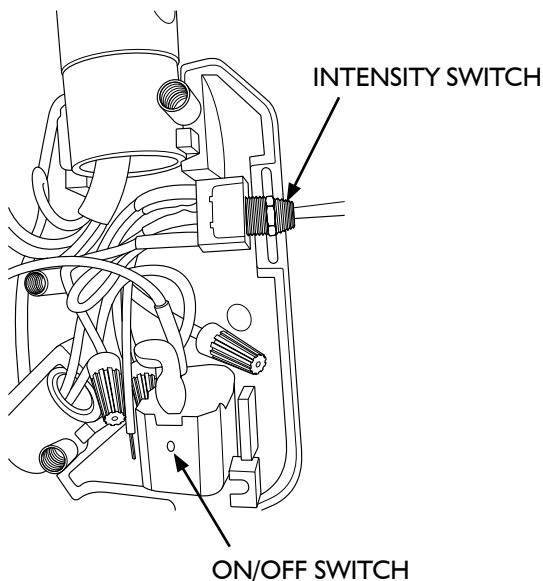

FIGURE 5
5. Align and seat the light switch and intensity switch into the housing, then re-install the cover and fasteners. Ensure that the wiring is not being pinched between the covers. **Figure 5.**